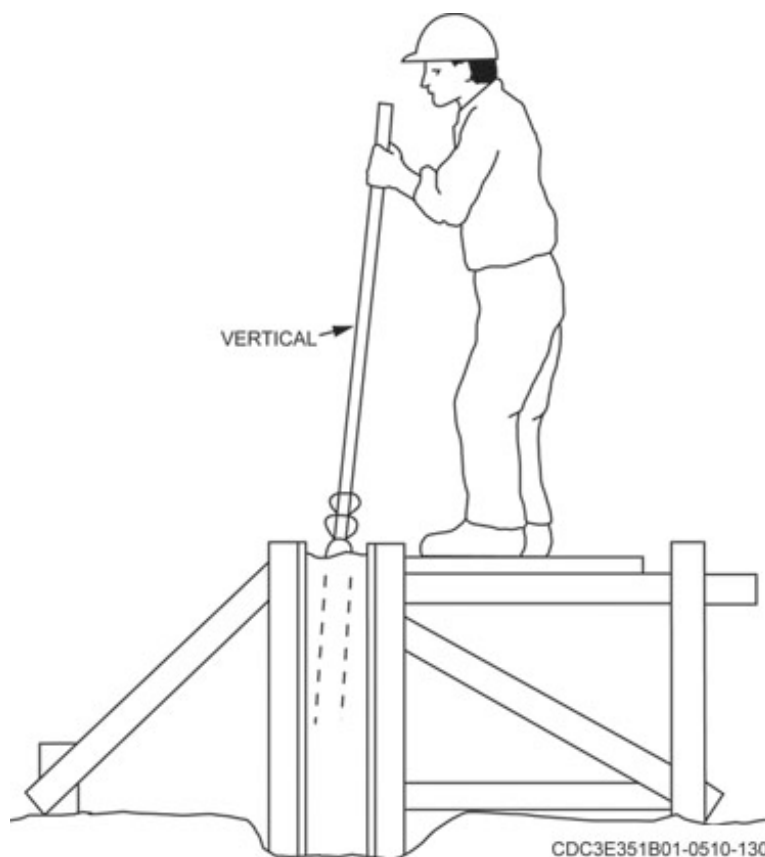

Figure 1-57. Using a mechanical vibrator.
- Whenever possible, lower the vibrator into the concrete vertically and allow it to descend by gravity (fig. 1-57). The vibrator should not only pass through the layer just placed but penetrate several inches into the layer underneath to ensure a good bond between the layers.